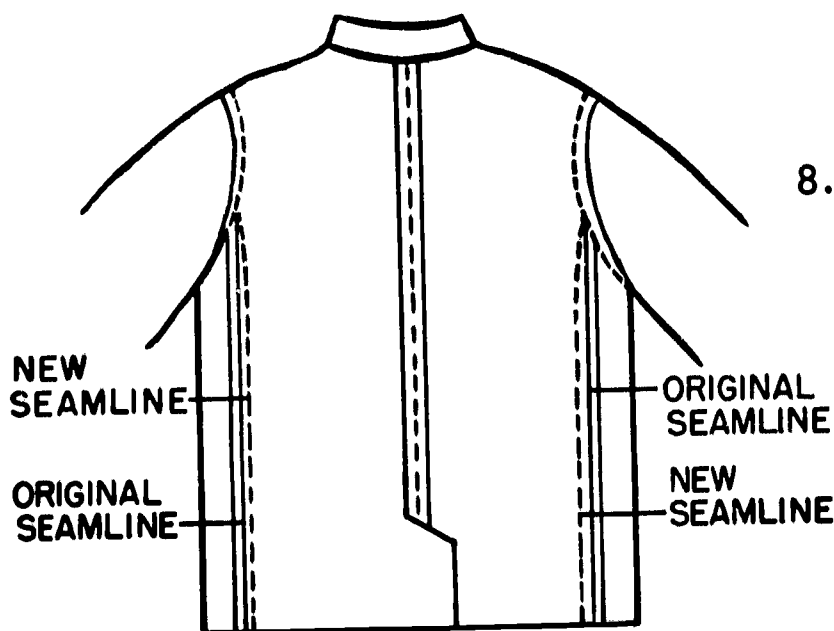

Figure 55.
8. The same amount will be taken out of each side back seam that was taken out of the center back. Again, the total amount will be divided in half before marking the new seamline. For example, the new seam will be $\frac{1}{4}$ inch from the original seamline if $\frac{1}{2}$ inch needs to be taken out of the coat back. Taper the seam sharply from nothing at the armhole to the amount to be taken out (see Figure 55).